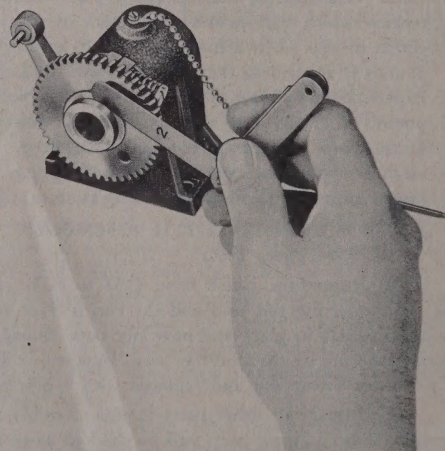

Figure 268 — Measuring Clearance Between Drift Gear and Bronze Bushing
(d) Place the brush stop plate (8) on the bombsight mounting stem bracket (9), making sure that the locating dowel is in the hole in the plate. Then insert the bombsight stem bracket bushing (1) through the gear assembly, with the collar in place on the gear bushing, and, placing the bracket in an arbor press, use a smooth, easy pressure to press the bushing (1) into the bracket (9). Press the bronze bushing into the bracket until there is a clearance of from .0015 to .003 inch, as measured with a thickness gage between the shoulder of the bronze bushing and the top of the steel drift gear bushing as shown in figure 268.